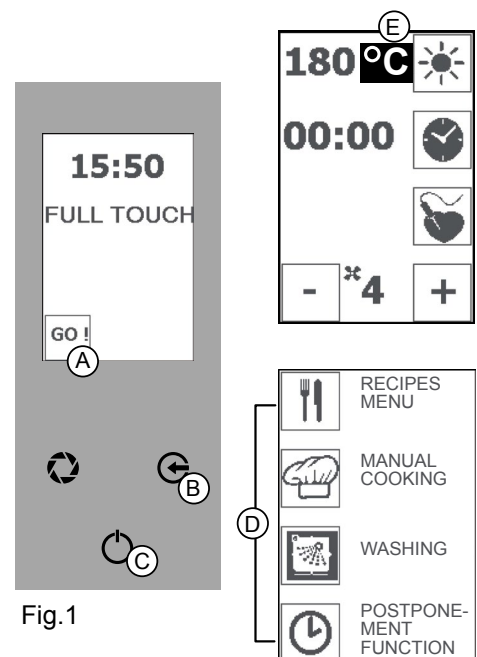

Fig.1
GAS BURNER switched off / °C lit up (Fig 1/E)
Press the "GO!" icon (Fig 1/A) to activate the main menu. Press the icon for the function (Fig 1/D) and switch on what you require (see e.g. section 6 "COOKING PARAMETERS").
After 15 minutes of inactivity on the "Home Page" the oven goes in "stand by" mode. Press the "ENTER" key (Fig 1/C) to reactivate it
After 1 minute of inactivity on the main menu the oven returns to the "Home Page". Press the "ENTER" key (Fig 1/C) to reactivate it
1. In main menu mode press the "ESC" key (Fig 1/B).
2. In the functions menu, press the "ENTER" key (Fig 1/C) to stop the operation and then press the "ESC" key several times to exit the function(s) and return to the Home Page.
To set the date and the time, press and hold the screen at the bottom right (Fig 1/D).
Use the “ARROW” icons (Fig 1/F) to select the parameter you want to change (e.g. HOUR, DAY, MONTH, YEAR).
Use the “MINUS” and “PLUS” icons (Fig 1/E) to change the parameter.